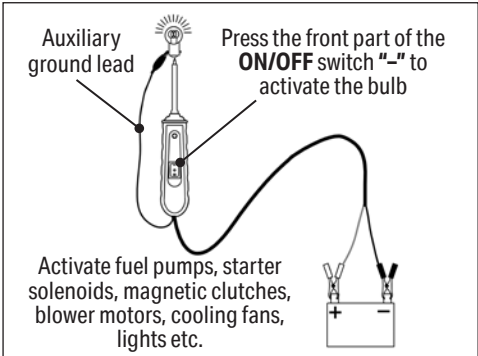

Fig.4
6.4 Activating Components out of the Vehicle's Electrical System (Fig.4)
- Use the probe tip (3) and the auxiliary ground lead (6) together to activate and test components function out of the vehicle's electrical system.